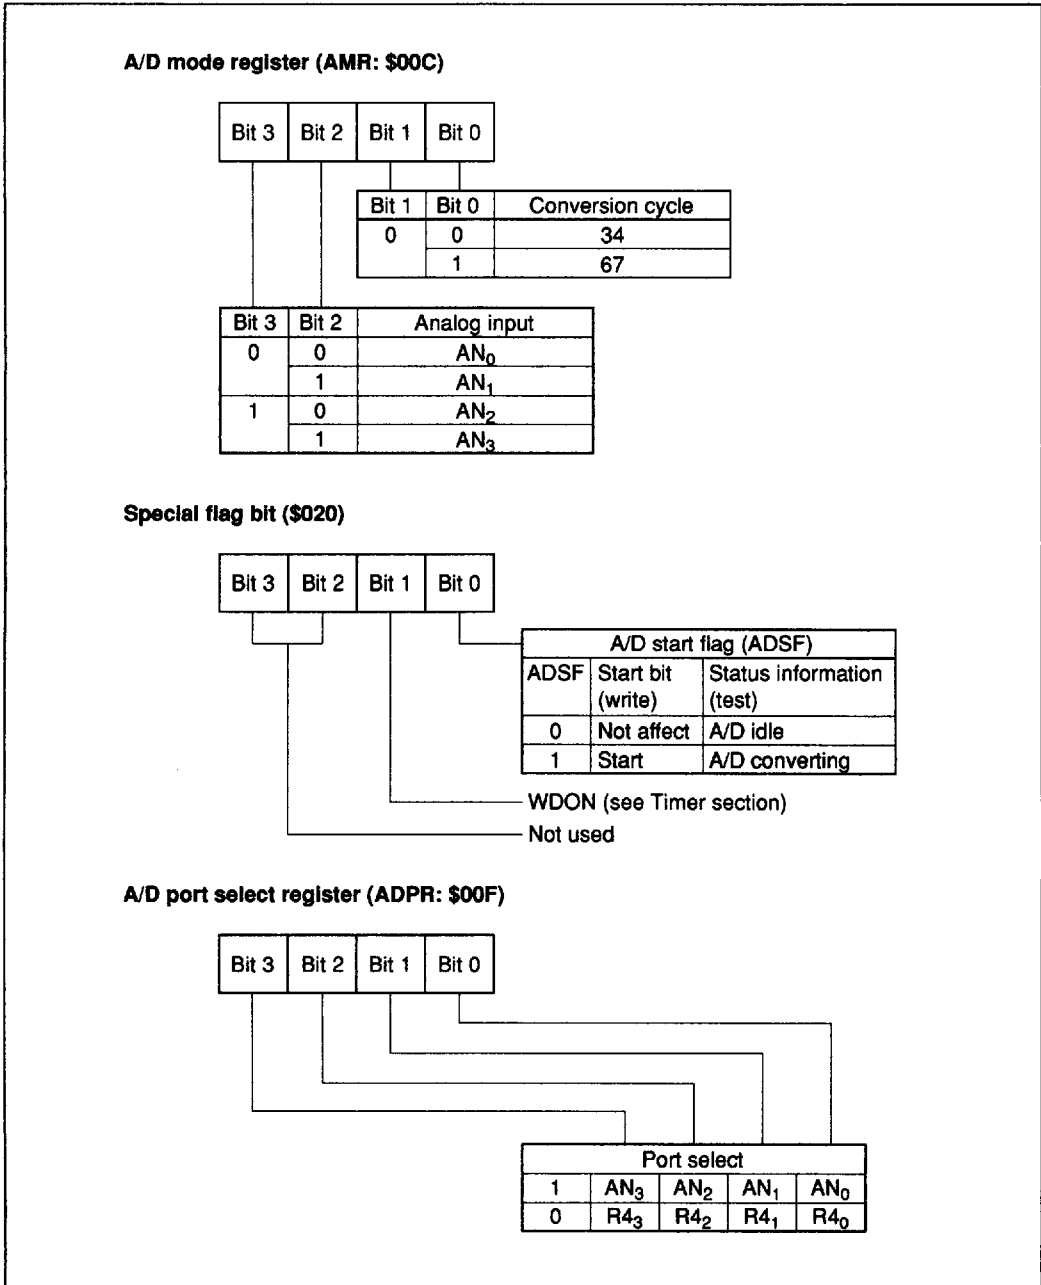

Figure 16 A/D Register Configuration
**A/D Mode Register (AMR: \$00C):** The A/D mode register (figure 16) is a 4-bit write-only register which selects the A/D conversion speed (bit 0, bit 1) and analog input channel (bit 2, bit 3).
**A/D Start Flag (ADSF: \$020, Bit 0):** A/D conversion is started when a 1 is written to the A/D start flag (figure 16). After a conversion is completed, the conversion data is set in the A/D data register and the A/D start flag is cleared simultaneously. Note that the bit manipulation instruction SEM or SEMD should be used to write data to ADSF. During A/D conversion, ADSF must not be written to.